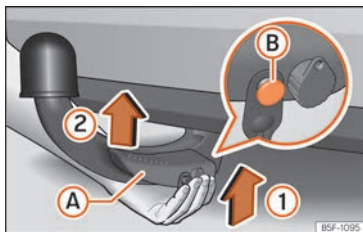

Fig. 254 Putting the tow hook in place. Step 1.
- Hold the tow hook **from below** and fit it into the hook housing in the direction of the arrow >>> **Fig. 254** ① until it is heard to fit into place >>> ⚠.
Lever >>> **Fig. 254** ① automatically turns in the direction of arrow ② upwards, and the release bolt ② moves outwards (its red and green parts are visible) >>> ⚠.
- **Keep your hands away from the lever when fitting the tow hook to avoid trapping your fingers >>> Fig. 254 ①.**